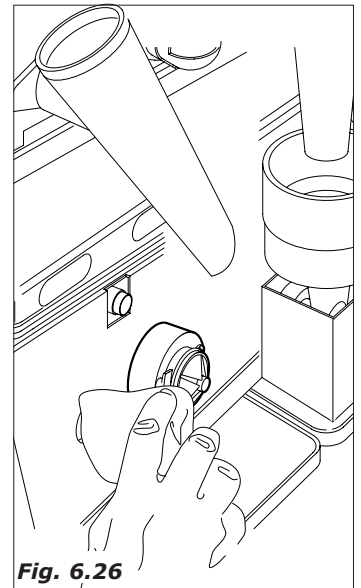

Fig. 6.26
- with a cloth soaked with the solution clean the whipper assembly base (Fig.6.26)